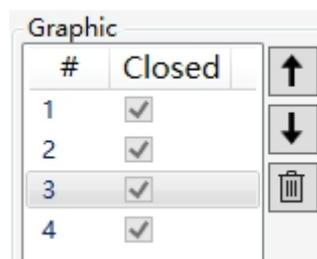

Fig. 5.2.2b Display of Selected Graphic List
Operation: ① Select the graphic whose order needs to be changed. Taking Fig. 3 as an example, the selected graphic will be displayed on a blue background. In the canvas, the graphic will appear in a blue box selection style, as shown in Fig. 5.2.2b and 5.2.2c.